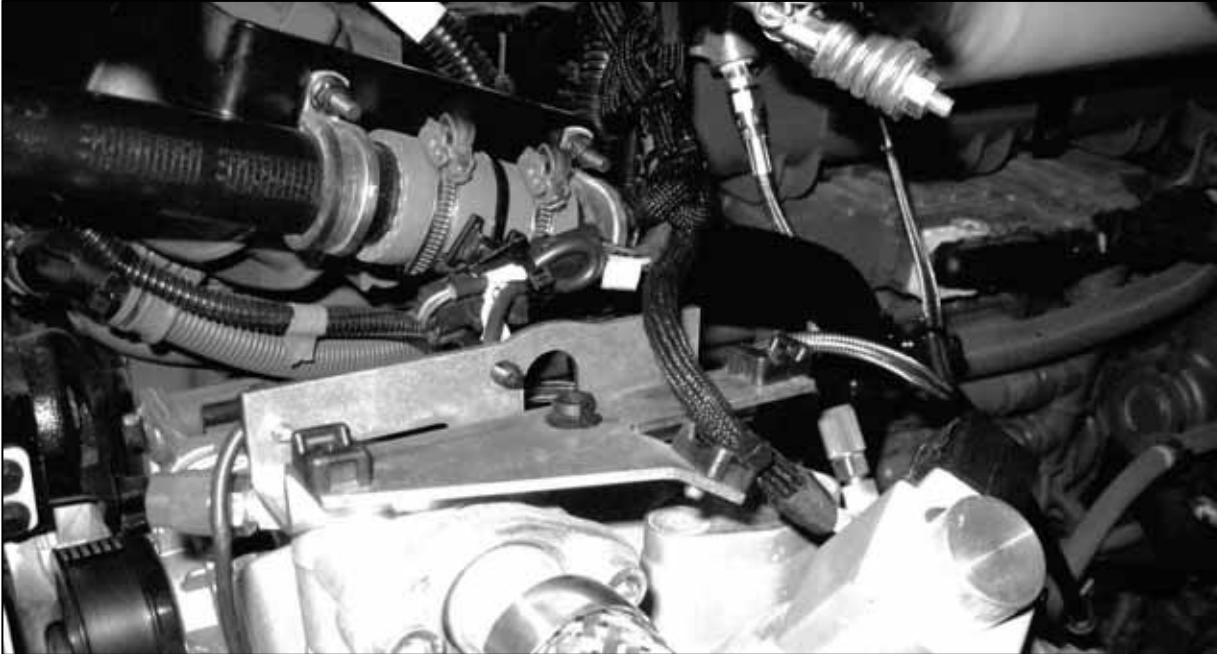

Figure 18 –Right side view
- 2.11.4. Install one swivel cable tie base **504751** on the flexible section of the oil fill tube. (Fig. 18). Secure clutch connector in an orientation that allows easy disconnection. Tie excess length of cable by making loops. (Fig. 18)